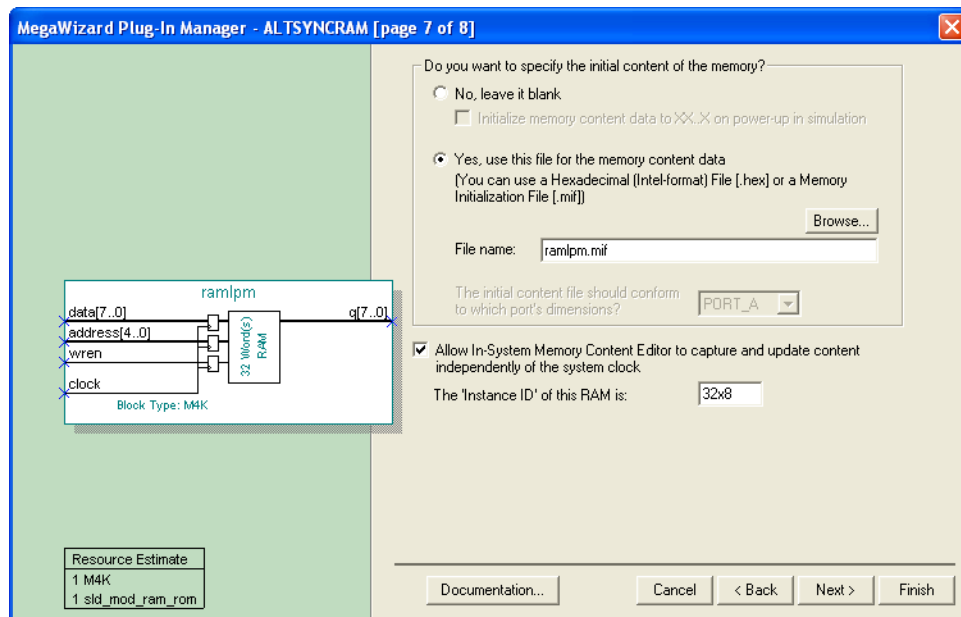
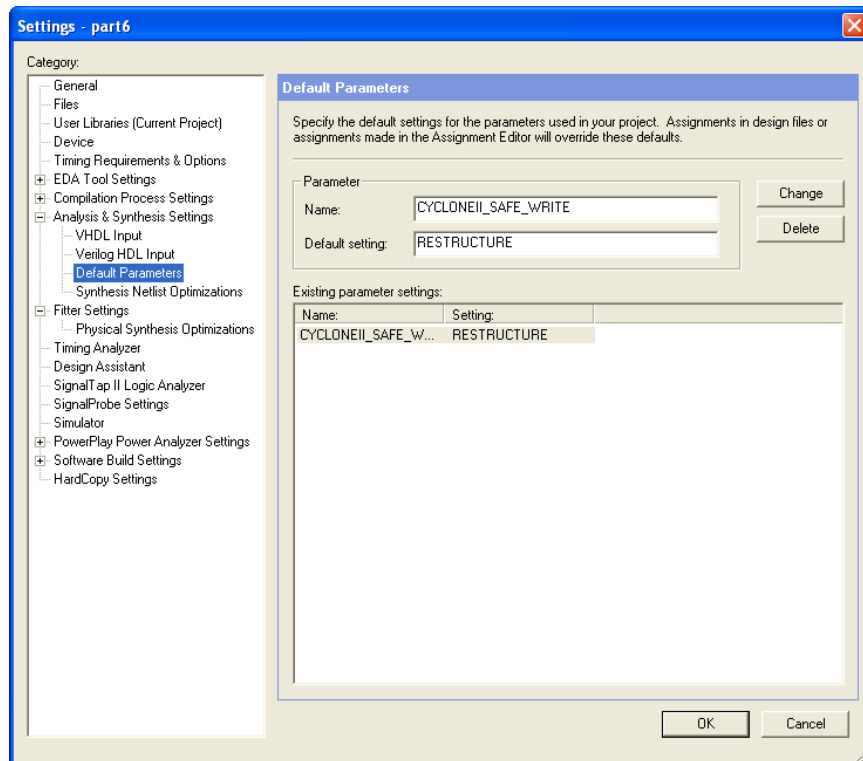

Figure 6. Configuring *altsyncram* for use with the In-System Memory Content Editor.
Figure 7. Setting the *CYCLONEII_SAFE_WRITE* parameter.
- Create a new Quartus II project for your circuit, and use the MegaWizard Plug-in Manager to again create a single-port version of the *altsyncram* LPM. For Pages 1 to 6 of the Wizard use the same settings as in Part I. On Page 7, shown in Figure 6, specify the *ramlpm.mif* file as you did in Part V, but also make the setting **Allow In-System Memory Content Editor to capture and update content independently of the system clock**. This option allows you to use a feature of the Quartus II CAD system called the In-System Memory Content Editor to view and manipulate the contents of the created RAM module. When using this tool you can optionally specify a four-character 'Instance ID' that serves as a name for the memory; in Figure 7 we gave the RAM module the name 32x8. Complete the final steps in the Wizard.
3. Before you can use the In-System Memory Content Editor tool, one additional setting has to be made. In the Quartus II software select **Assignments > Settings** to open the window in Figure 7, and then open the item called **Default Parameters** under **Analysis and Synthesis Settings**. As shown in the figure, type the parameter name **CYCLONEII_SAFE_WRITE** and assign the value **RESTRICTURE**. This parameter allows the Quartus II synthesis tools to modify the single-port RAM as needed to allow reading and writing of the memory by the In-System Memory Content Editor tool. Click **OK** to exit from the Settings window.